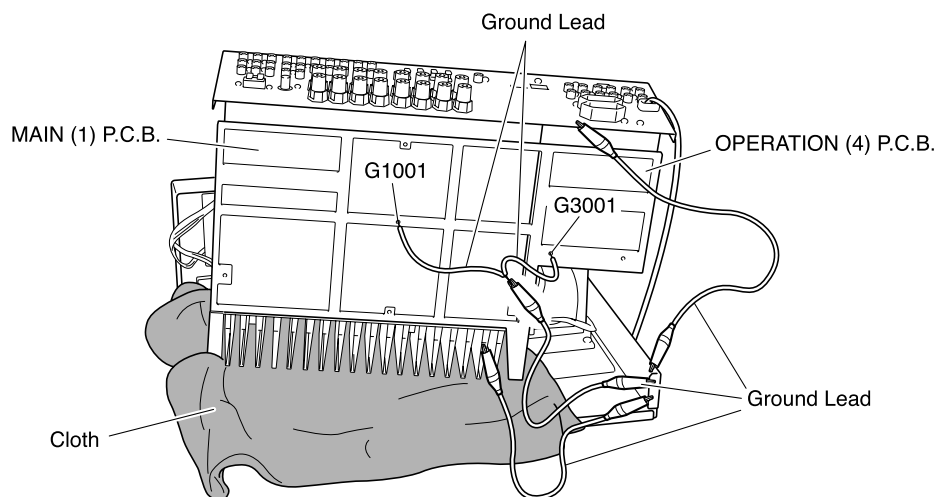

Fig. 6
- Put a cloth over the equipment. Put the P.C.B.s together with the heat sink upright on the cloth and check them. (Fig. 6)
- The P.C.B. removed from the chassis does not work because its grounding is loose. Be sure to connect the ground of rear panel, MAIN (1) P.C.B. (G1001) and OPERATION (4) P.C.B. (G3001) to the chassis with a ground lead or the like.